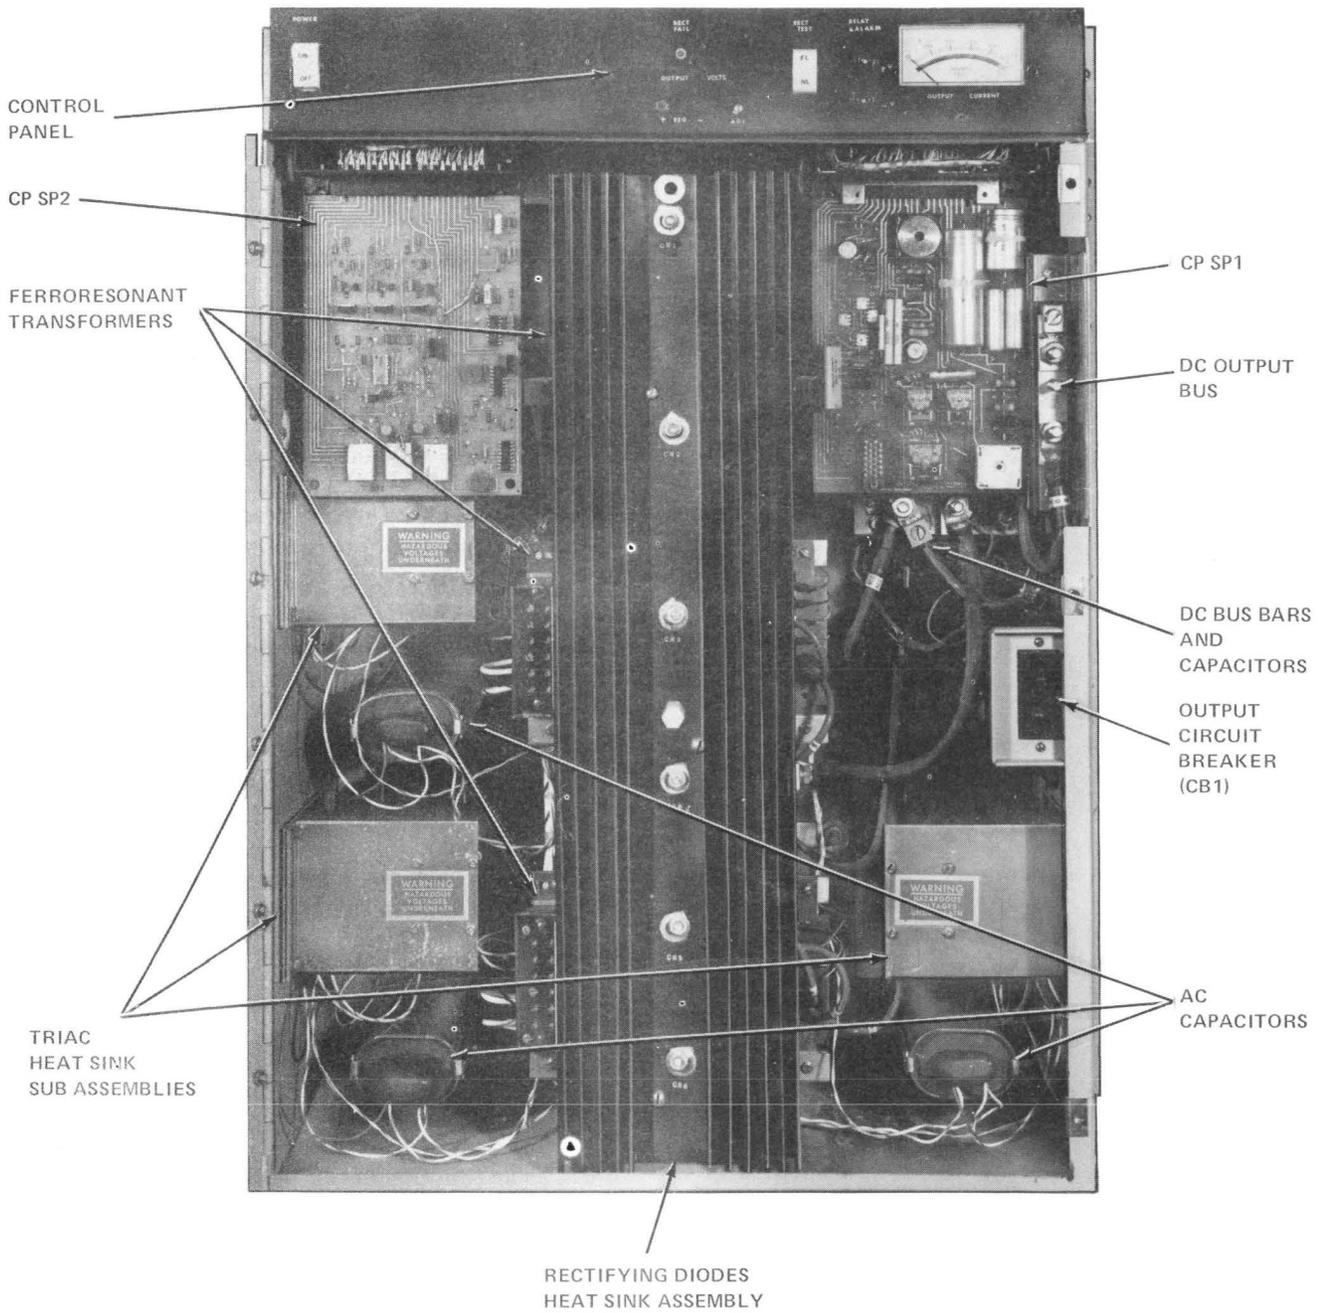
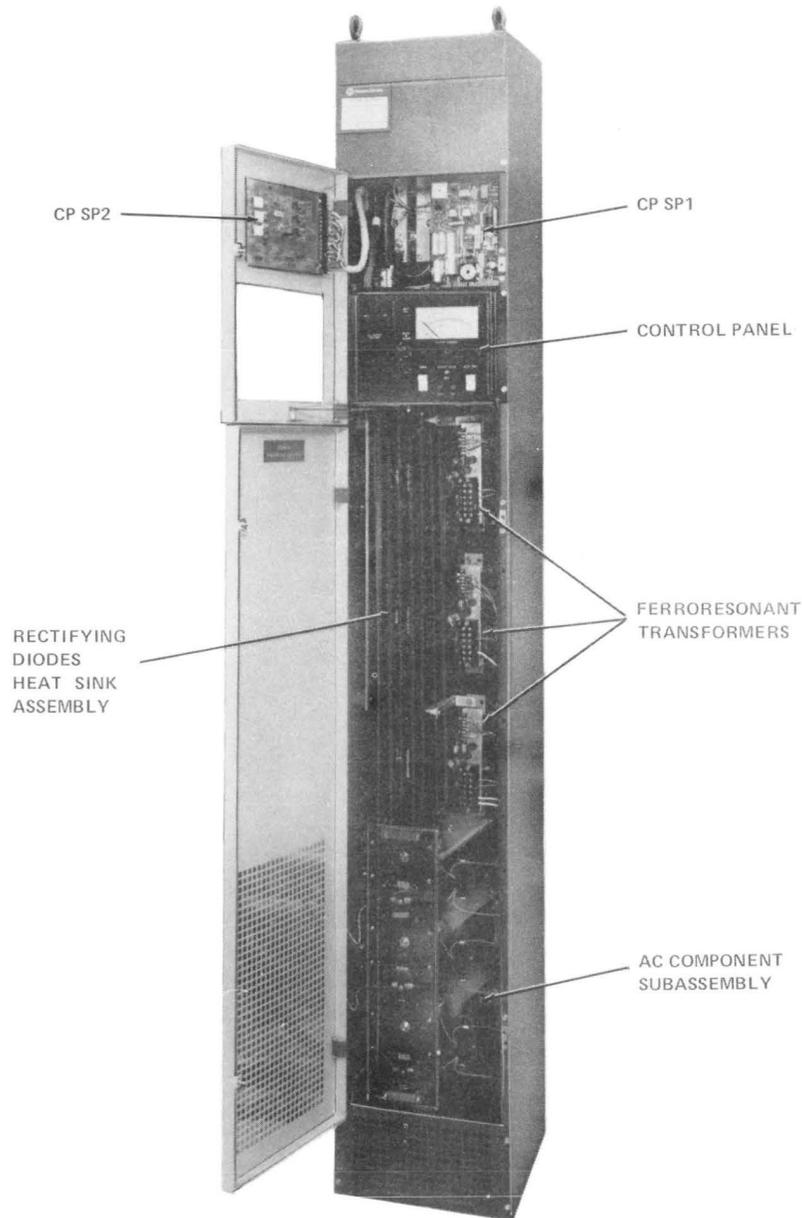

Fig. 5—J87436A, L1 and L3, or L2 and L3, Rectifier—Front Panel Open
Fig. 6—J87438A, L1 or L2, Rectifier—Front Panels Open
**2.05** The front panel of the J87436A rectifier swings open to allow access to components inside (Fig. 5). On the J87438A rectifier there are two front panels—an upper panel and a lower panel—which swing open independently (Fig. 6). The rectifier contains three ferroresonant transformers, one for each ac input phase. A large heat sink holding the rectifying diodes is mounted over the transformers. The regulation, control, and alarm circuits are contained on two printed wiring boards (CP SP1 and CP SP2 or  $\blacktriangleright$ CP SP2B $\blacktriangleleft$ ) which plug into connectors inside the rectifier. Other rectifier components include triac heat sink assemblies, ac capacitors, iron-core inductors, and dc output capacitors and bus bars.